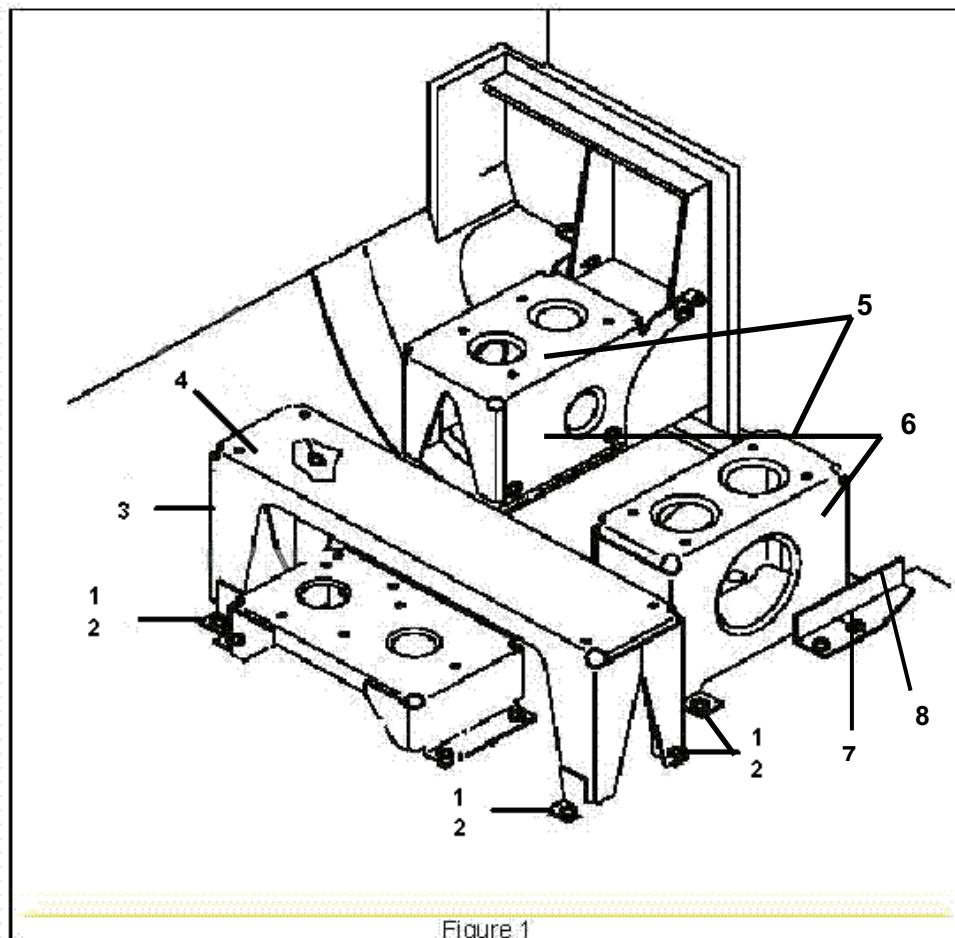
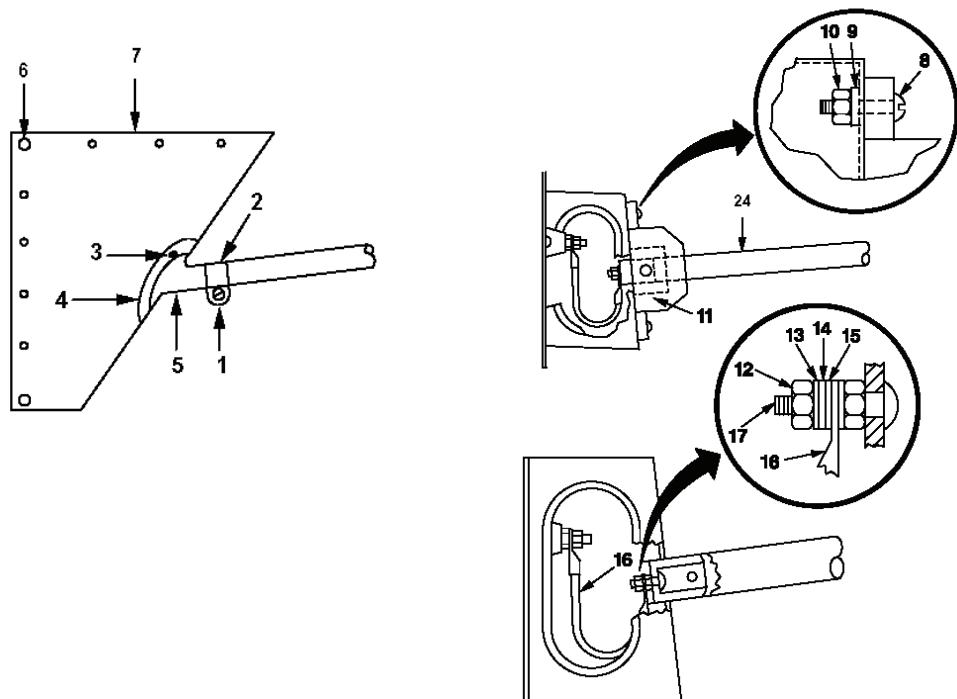

Figure 1
Figure 2
- a. Removal of the HF- R/T Shock Mount. (See Figure 1.)
b. Removal KY-75 Shock Mount. (See Figure 1.)
- (1) Remove four machine screws (1) and four flat washers (2).
- (2) Remove rivets (7) and "L" shaped bracket (8).
- (3) Remove KY-75 Shock Mount (5) and Brackets (6).
- (4) Reinstall four screws (1) and four washers (2) in mounting holes.
- (5) Clean area where rivets were removed with isopropyl alcohol.
- (6) Cover holes with masking tape.
- (7) Insert Episeal 10-10 (Metal Set or equivalent) through tape using syringe.
- (8) Sand area after drying.
- c. Removal HF Antenna. (If Installed.) (See Figure 2.)
- (1) At rear of fuselage loosen screw (1) on clamp (2).
- (2) Remove 3 screws (3).
- (3) Slide ring (4) and boot (5) toward rear of tailboom.
- (4) Remove 18 screws (6) from access door (7).
- (5) Slide access door (7) toward rear of tailboom.
- (6) Remove four screws (8), washers (9) and nuts (10) from insulator (11).
- (7) Slide insulator (11) toward rear of tailboom.
- (8) Remove nut (12), washer (13), lockwasher (14) and washer (15).
- (9) Remove jumper assembly (16) from antenna terminal (17). Retain hardware.